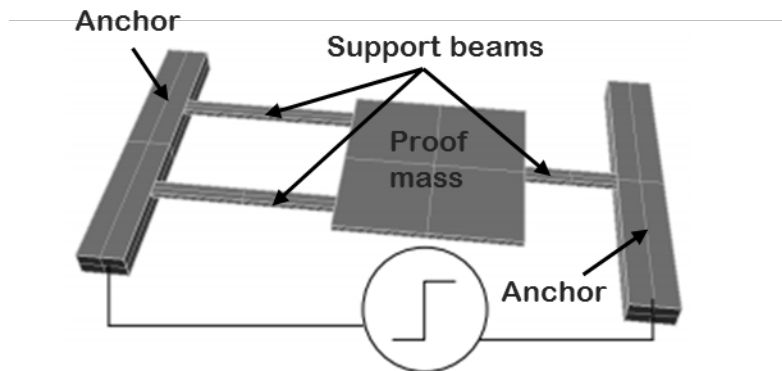

Figure PS1.3-1
3. Suppose a step function voltage  $V_A$  was suddenly applied across the anchors of a  $2\ \mu\text{m}$  thick polysilicon beam and proof mass setup as shown in Figures PS1.3-1 and PS1.3-2, which also provide lateral dimensions. For polysilicon, assume the following material properties: Young's modulus  $E = 150\ \text{GPa}$ , density  $\rho = 2300\ \text{kg/m}^3$ , Poisson ratio  $\nu = 0.226$ , sheet resistance (resistivity $\cdot$ thickness $^{-1}$ ) =  $10\ \Omega/\square$ , specific heat =  $0.77\ \text{J}/(\text{g}\cdot\text{K})$ , and thermal conductivity =  $30\ \text{W}/(\text{m}\cdot\text{K})$ .